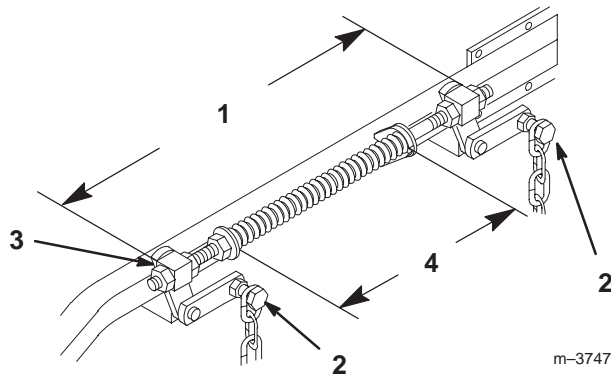

Figure 64
6. Loosen the four top chain bolts in slots. Check the length of the rod/swivel assemblies. Distance from outside of rear swivel to outside of front swivel should be 19–17/32 inch (496 mm) (Fig. 64). Make sure that all four swivels move freely in holes.
2. Springs are compressed so the distance between the two large washers should be 11 inch (279 mm) (Fig. 64).
3. Adjust by turning nut in front of each spring (Fig. 64). Clockwise will shorten spring; counter-clockwise will lengthen spring.